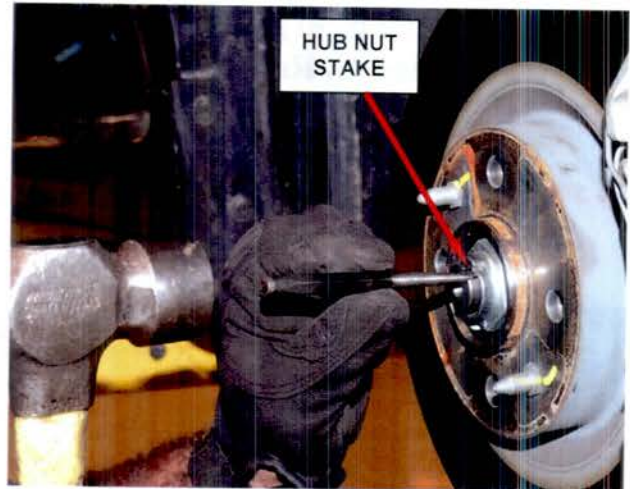

Figure 4 – Disengage Hub Nut Stakes
2. Using a small hammer and chisel, disengage the two stakes on the halfshaft hub nut (Figure 4).